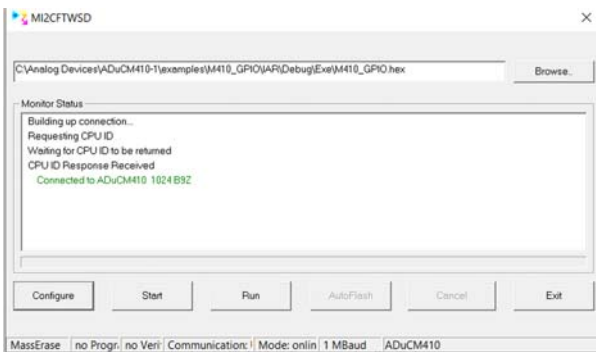

Figure 21. I²C Connection Established
- Click the **Start** button in the **MI2CFTWSD** window. If the I²C connection is established, the status shows the **ADuCM410** is connected, as shown in Figure 21.